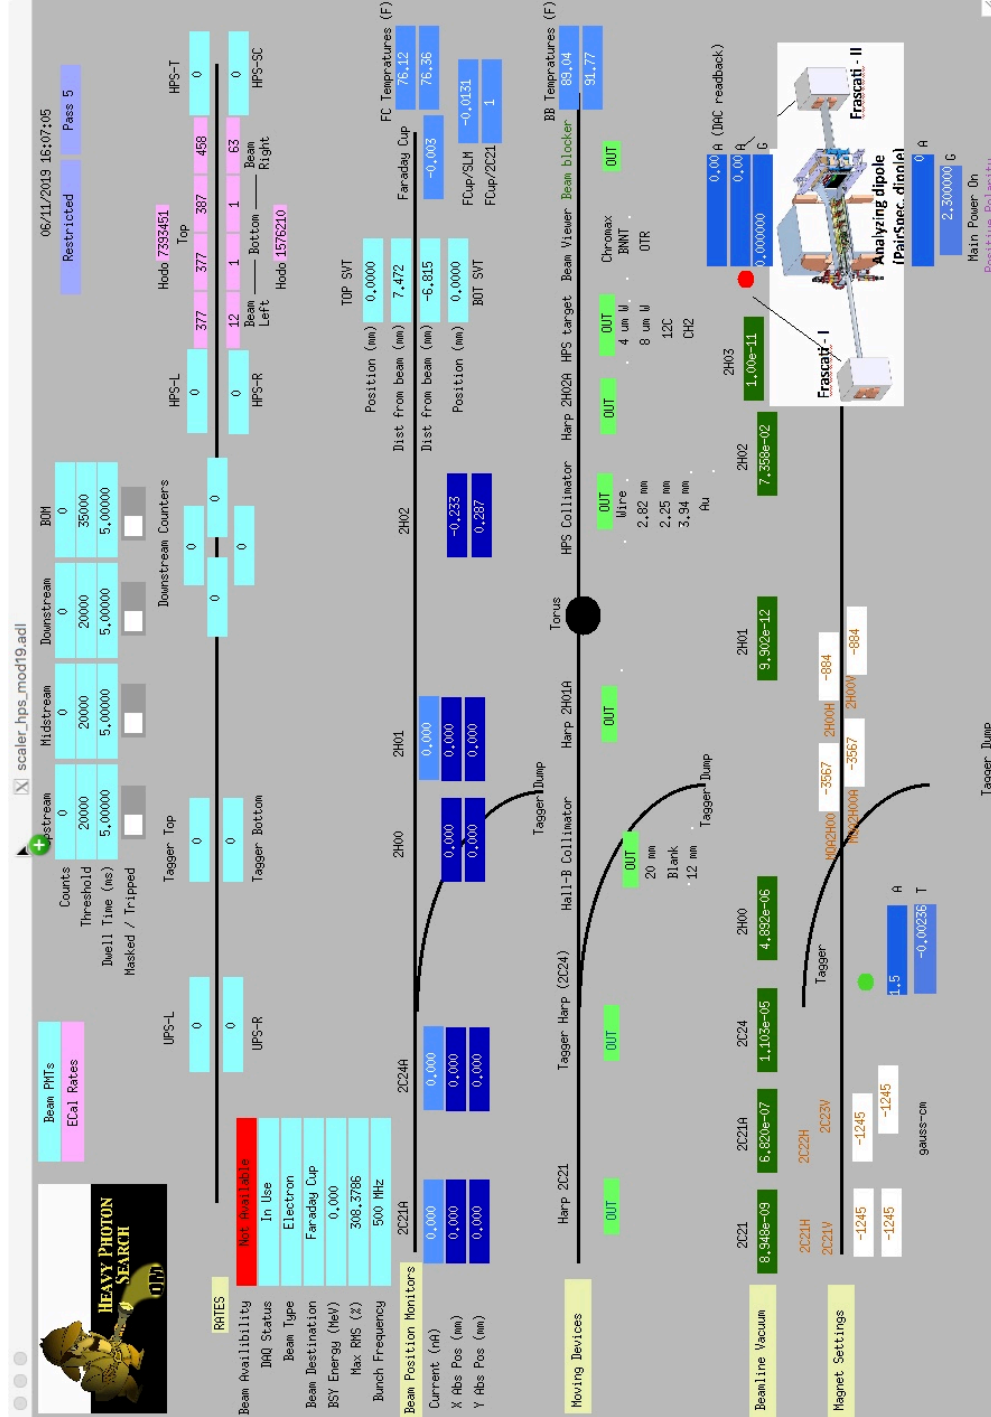

Figure 2: The main scaler GUI.
**Main Scaler** screen shown in Figure 2 can be opened from the pull down menu of the *"hps\_epics"* under *"Bemline"*. The main GUI contains most of the beam line and detector parameters that needs to be monitored; FSD settings, halo counter and detector rates, BPM readings, Faraday cup value, motor positions, vacuum gauges, magnet setting etc.
The instantaneous beam current reading from the Faraday cup is available on the **Main Scaler** screen as shown in Figure 2. This GUI can be launched via the "*hps\_epics*" by selecting the **Beam** pull down menu. The update rate is the same as for the beam halo scalers and is controlled from that GUI, see Section ?? . An important consideration is that the Faraday Cup current integrater rate is 10 counts/sec when the current is 1 nA. This means that if the count time on the scaler is less than 1 sec you will observe large statistical flucations.